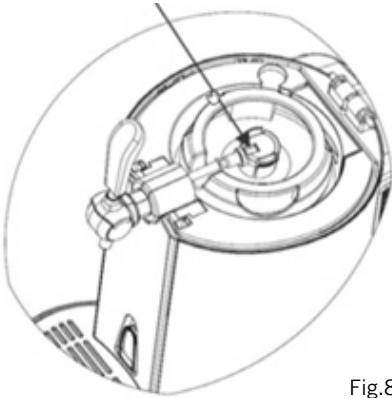

Fig. 8
10. Now attach the adapter for “fresh kegs”, which is connected to the beer tap system, to the keg with sufficient pressure (Fig. 8).